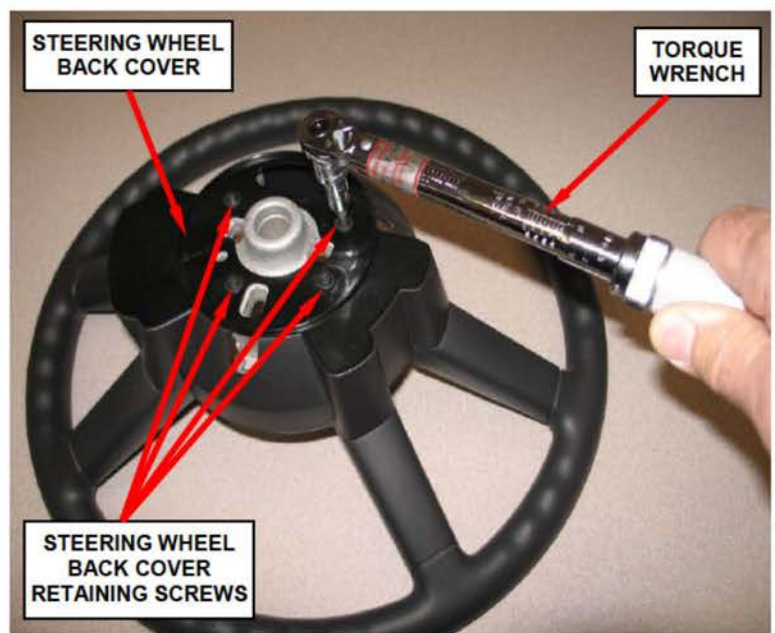

Figure 7 – Steering Wheel Back Cover Installation (2008 through 2010 models only)
24. **For 2008 through 2010 models only**, install a steering wheel back cover and retaining screws (Figure 7). Tighten the screws to 35 in. lbs. (4 N·m).